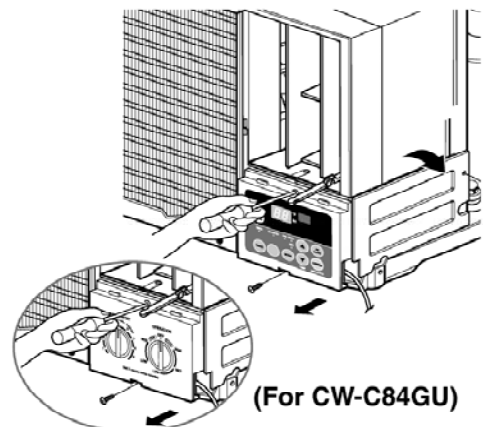

Figure 3
8. Remove the 2 screws which fasten the control box. (See Figure 3)
10. Re-install the components by referring to the removal procedure, above. (See Figure 3) (Refer to the circuit diagram found on page 29 in this manual or on the control box.)